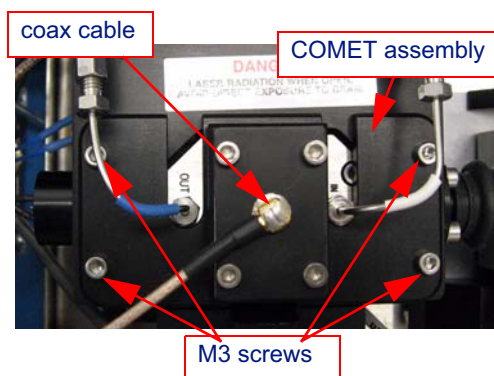

Figure 5-10: Flow Cell with COMET Option
12. Using the 2.5 mm Ball driver, install the four M3 hex-head screws securing the COMET assembly. Refer back to Figure 5-10.